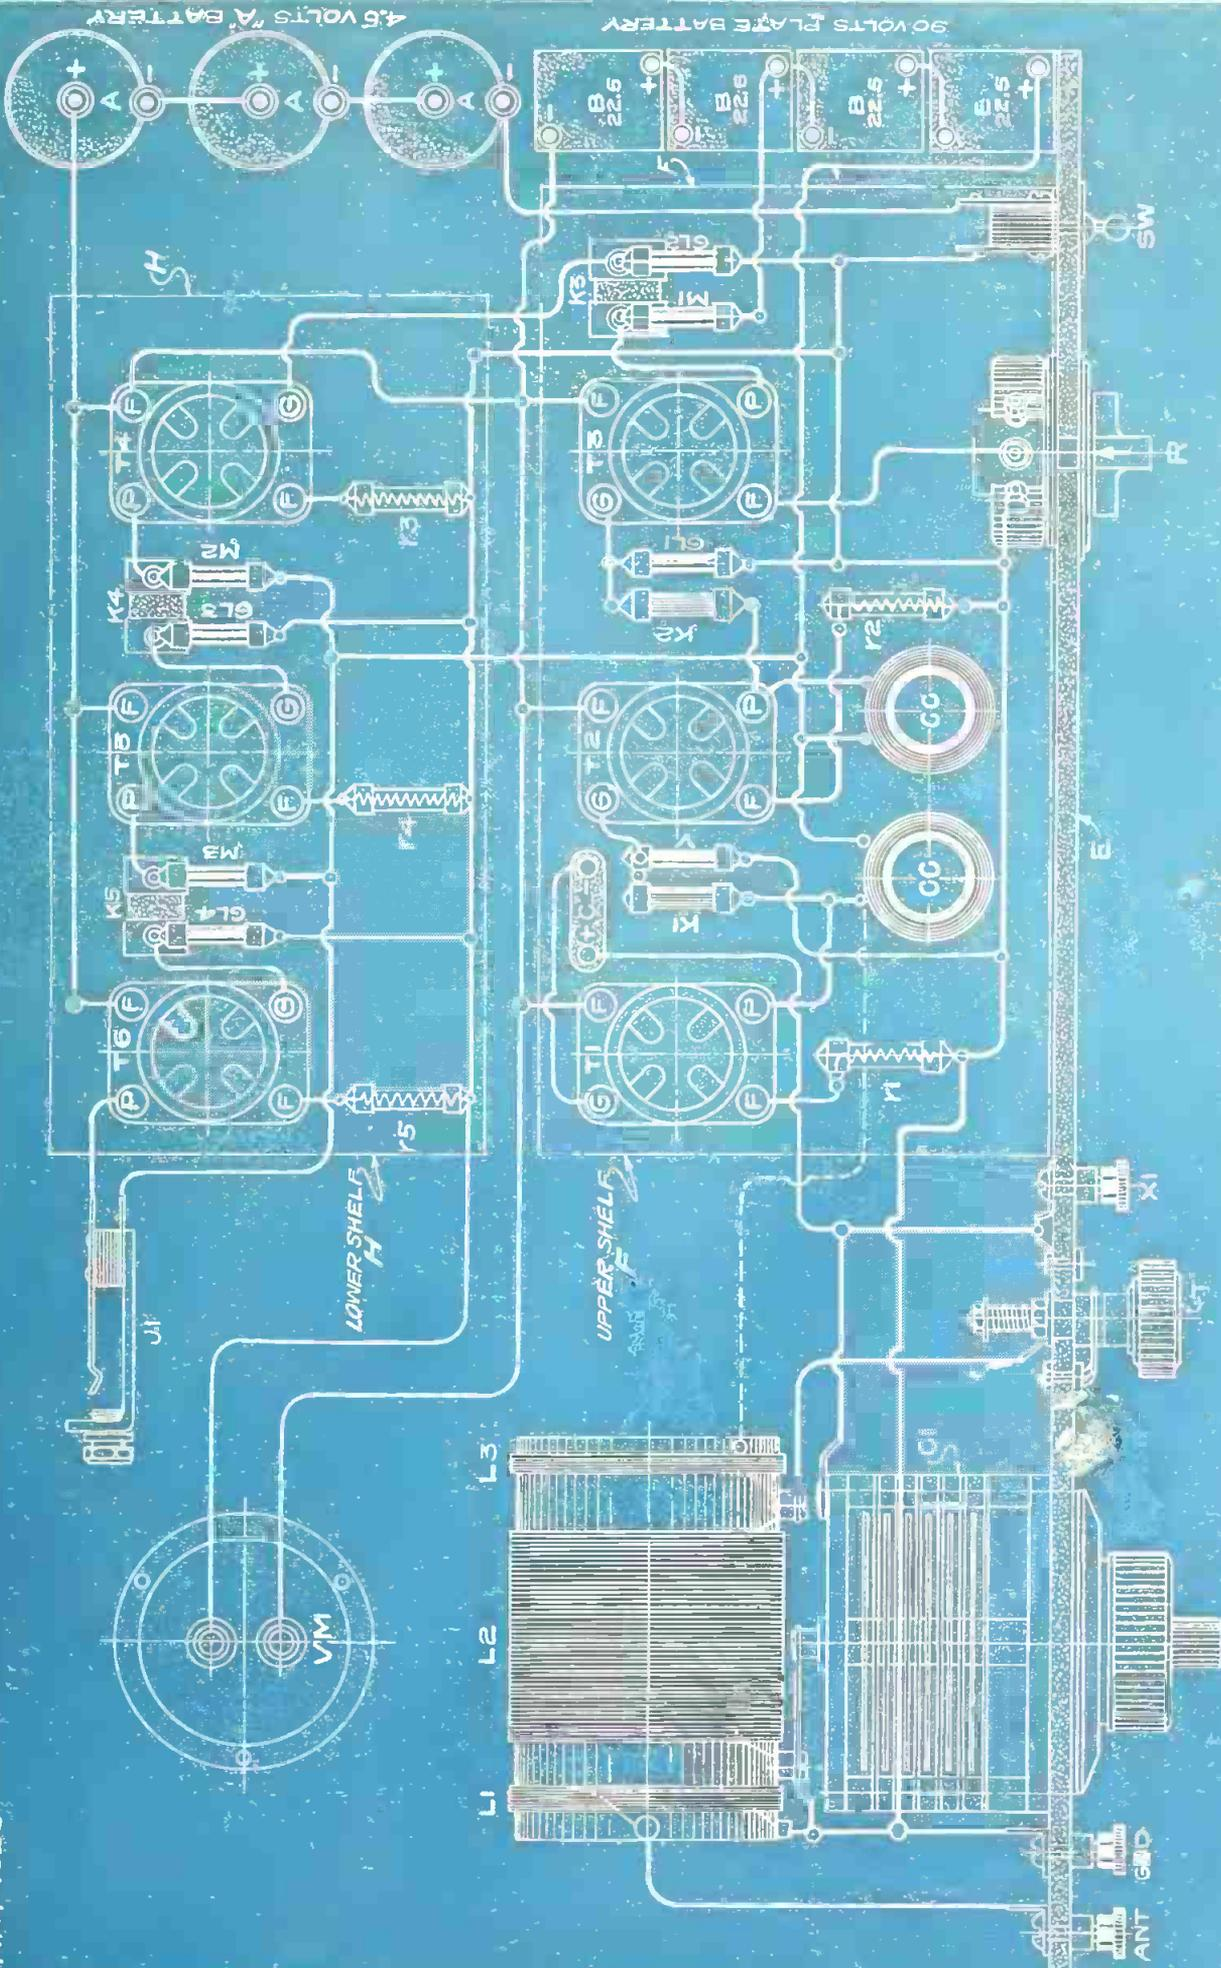
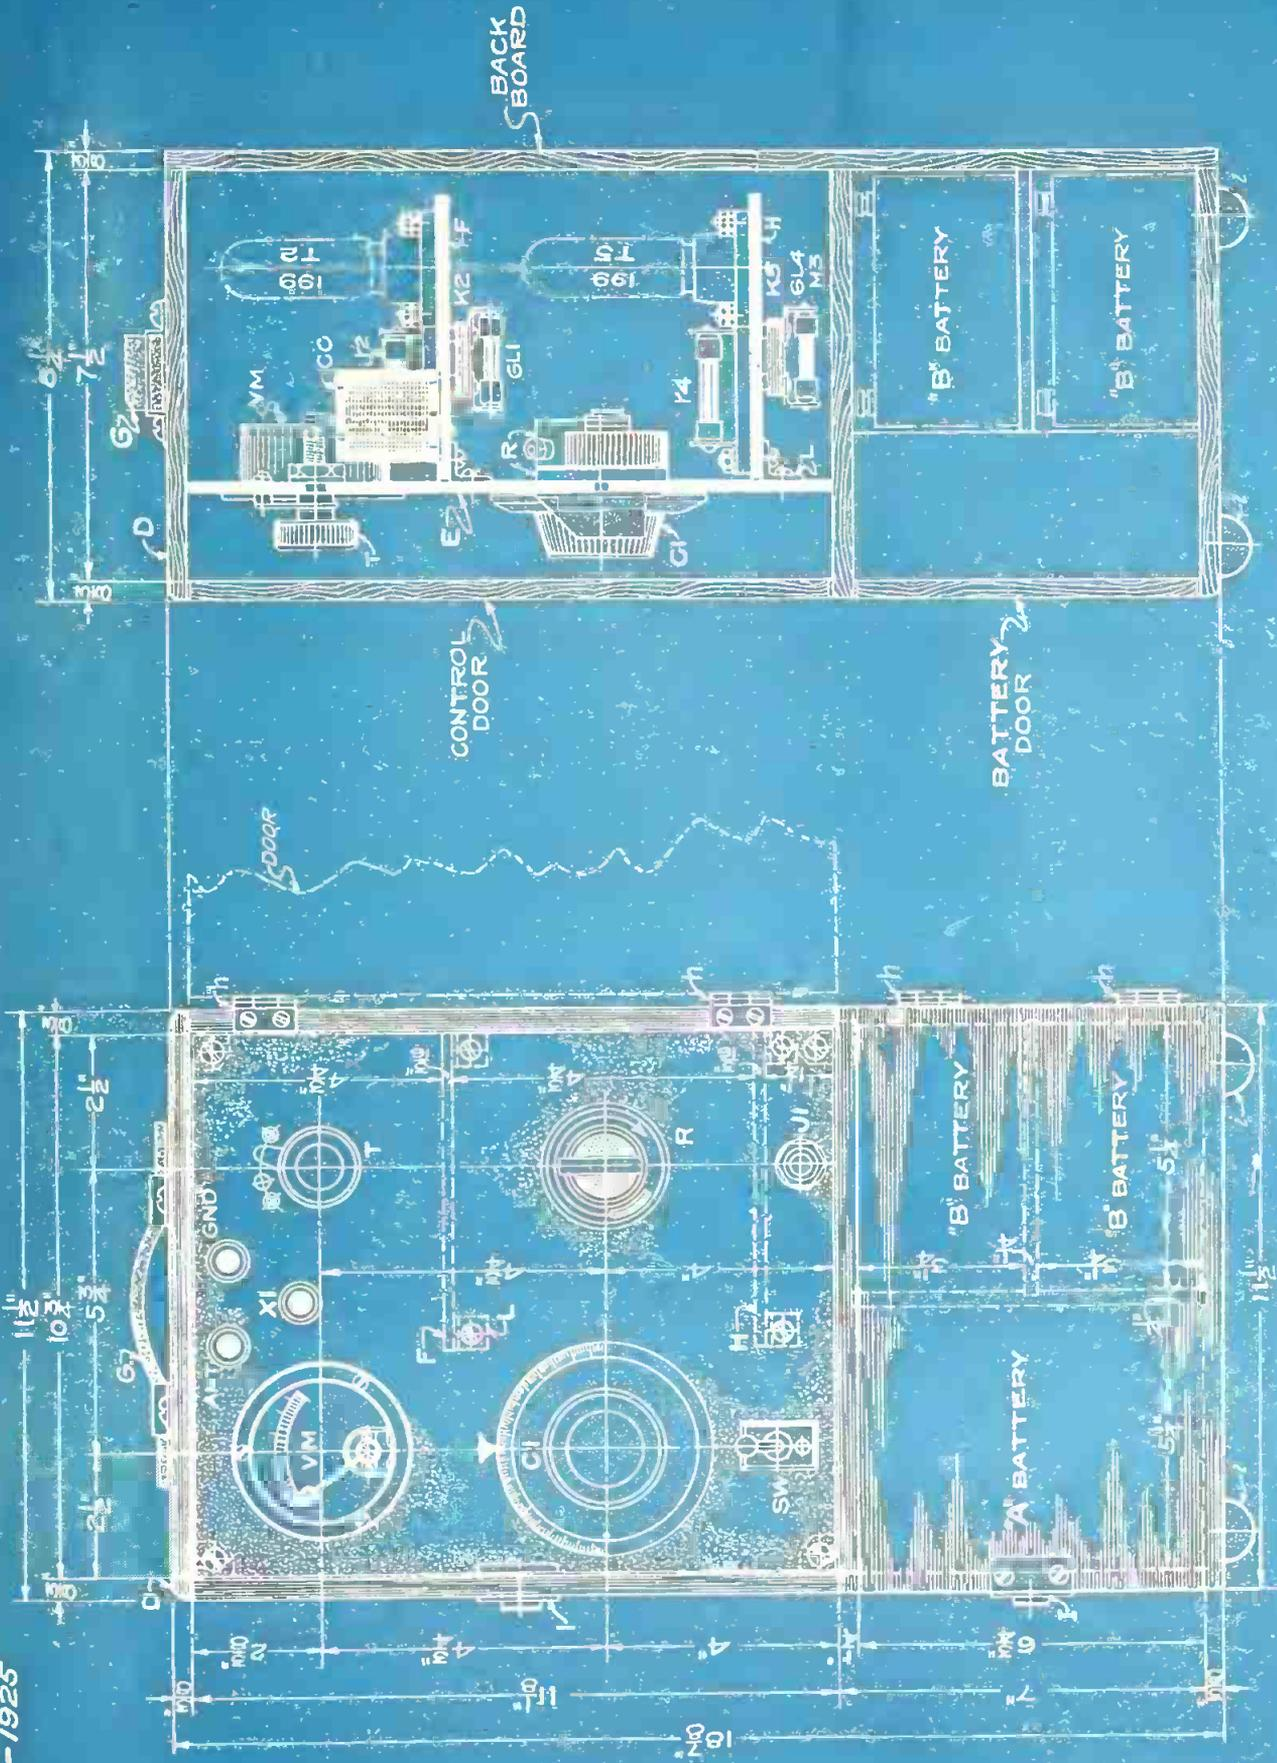

FIG. 2
FIG. 3A
THE application of the choke system to the first three tubes will be seen in Fig. 1 and Fig. 2, where Fig. 1 is a schematic diagram using symbols, and Fig. 2 is a picture wiring diagram. The first will be of more service to the experienced builder in "doping out" the circuit, while the latter will show the novice how the wiring connections are actually made to the parts. Fig. 3 is a front elevation of the panel and cabinet, while Fig. 4 is a rear elevation showing the parts assembled at the rear of the panel. Fig. 3A is a sectional view as seen from one side of the assemblage.
As will be seen from the side sectional view, Fig. 3A, the panel is set back from the front edge of the cabinet so that the front door will clear the knobs and dials.
FIG. 4 shows the arrangement of the apparatus as seen from the rear of the panel. The six tube sockets (U) are placed in groups of three on the two shelves (F) and (H), and the outlines of the tubes are indicated by thin dot and dash lines so that the allowance for shelf clearance can be easily seen. The tubes are numbered so that their relation to the circuit drawings of Figs. 1 and 2 can be easily followed, and the sockets can be located in the same way. Fig. 3A and Fig. 4 can be used in combination, thus obtaining the side and rear elevations of the assembly.
The side sectional view of Fig. 3A shows that a shelf (F) is used for carrying the first three tubes, and that this shelf is attached to the panel (E) by means of brass angle brackets (L). The shelf (F) carries the first two tubes (T1-T2) of the radio frequency circuit and also the detector tube (T3). Below the upper shelf is the lower shelf (H) which carries the three audio tubes (T4-T5-T6). As the resistance units and other parts of the circuit are carried on the underside of the shelves with the sockets on top, we must be sure to leave room to accommodate the height of the tubes over their sockets, plus the thickness or height of the resistance units and the condensers, plus clearance.